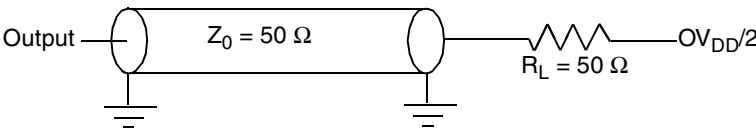

Figure 32. AC Test Load for the JTAG Interface
1. All outputs are measured from the midpoint voltage of the falling/rising edge of t_{TCLK} to the midpoint of the signal in question. The output timings are measured at the pins. All output timings assume a purely resistive 50- Ω load (see Figure 32). Time-of-flight delays must be added for trace lengths, vias, and connectors in the system.
2. The symbols used for timing specifications herein follow the pattern of $t_{(first\ two\ letters\ of\ functional\ block)(signal)(state)}$ (reference)(state) for inputs and $t_{(first\ two\ letters\ of\ functional\ block)(reference)(state)(signal)(state)}$ for outputs. For example, t_{JTDVKH} symbolizes JTAG device timing (JT) with respect to the time data input signals (D) reaching the valid state (V) relative to the t_{JTG} clock reference (K) going to the high (H) state or setup time. Also, t_{JTDXKH} symbolizes JTAG timing (JT) with respect to the time data input signals (D) went invalid (X) relative to the t_{JTG} clock reference (K) going to the high (H) state. Note that, in general, the clock reference symbol representation is based on three letters representing the clock of a particular functional. For rise and fall times, the latter convention is used with the appropriate letter: R (rise) or F (fall).
Figure 32 provides the AC test load for TDO and the boundary-scan outputs of the MPC8555E.